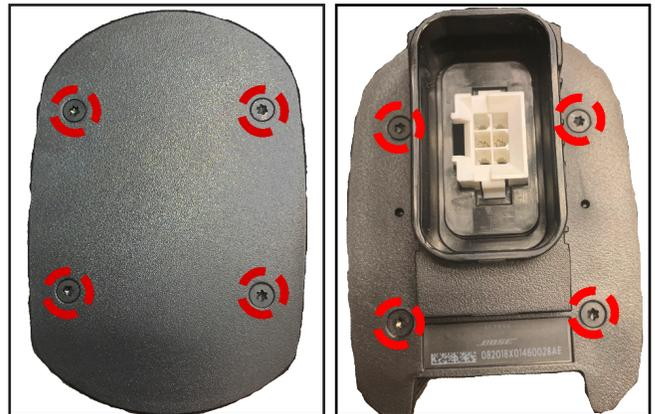

Figure 20. Both Ends of Endcaps Screws Removal
1.1 Remove the 8 screws that secure the Endcaps from both ends of the Upper Array as indicated in Figure 20.